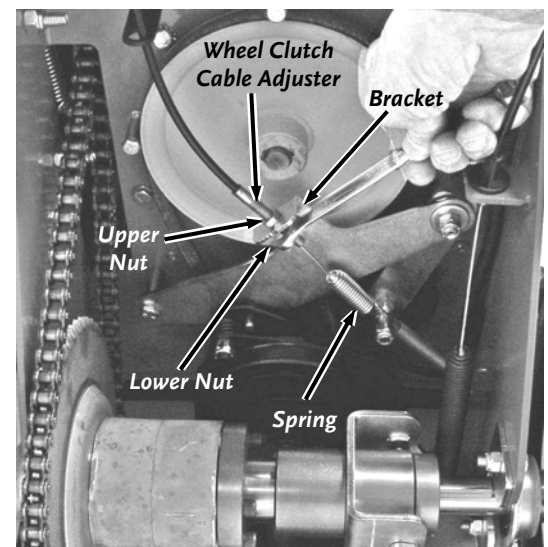

Figure 22
- (2) 1/2" Wrenches
- Find the Wheel Clutch Adjuster on the Bracket on the underside of the machine (**Figure 22**).